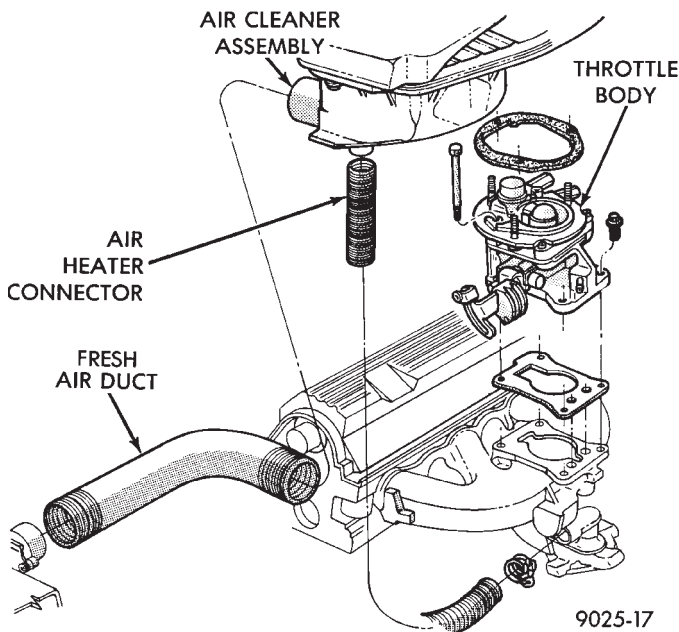

Fig. 1 Heated Air Inlet System
2.2L and 2.5L TBI air cleaners have a heated air assembly (Fig. 1). When ambient temperatures are low, the assembly warms the air before it enters the throttle body. The heated air assembly reduces hydrocarbon emissions, improves engine warm-up characteristics and minimizes icing.